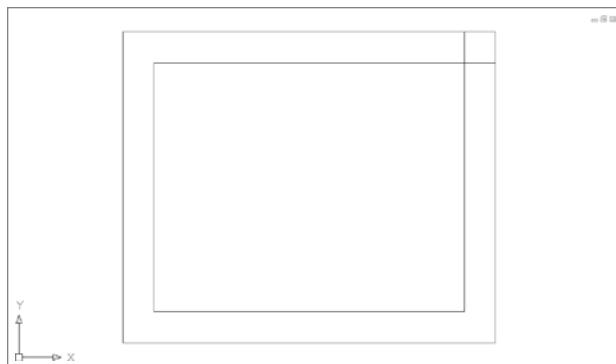

FIGURE 2.26 The box with three corners cleaned up
5. Fillet the lower-left and lower-right crossing lines to clean up those corners (see Figure 2.26) and press ↵.